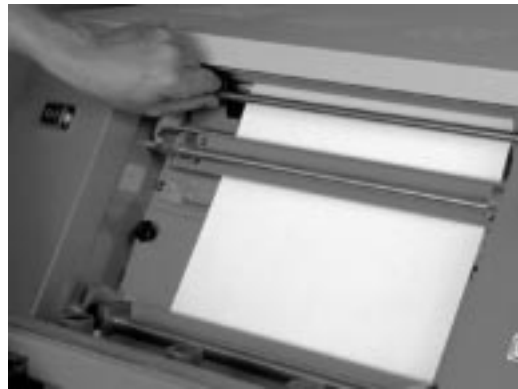

Figure 294. Pulling the Paper Under the Paper Clamp
- 10 Pull the paper under the paper clamp and its lever, as shown in Figure 294.